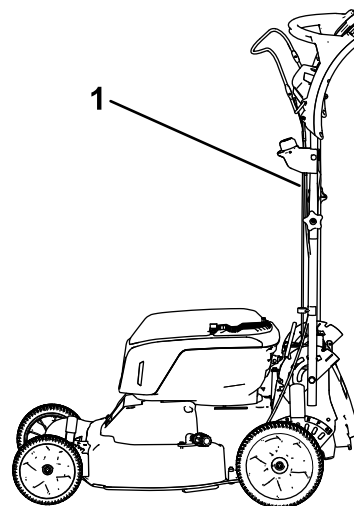

Figure 26
1. Lock the handle in the vertical position (Figure 26); refer to Adjusting the Handle Height (page 13).